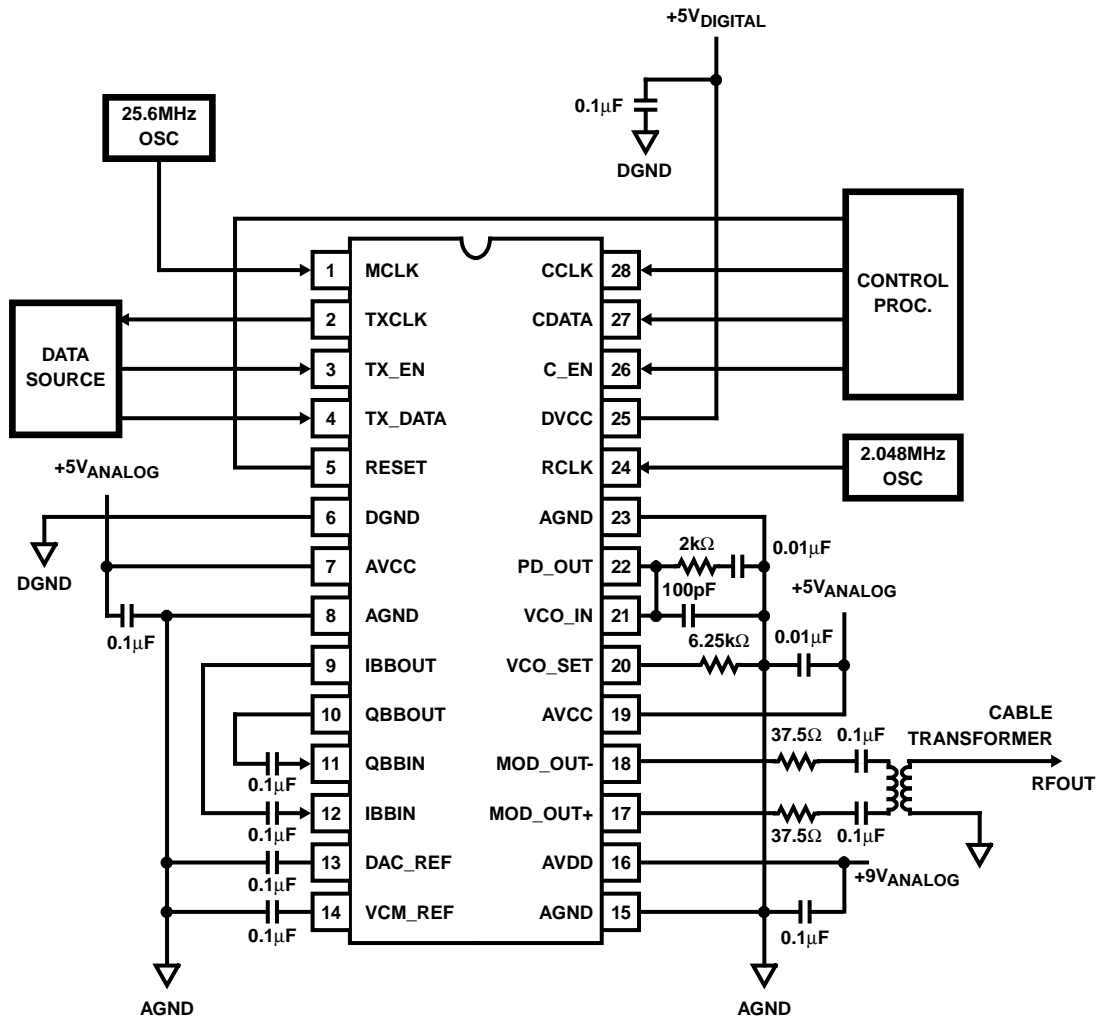

FIGURE 4. APPLICATIONS EXAMPLE OF THE HSP50307
Figure 4 shows an applications example of the HSP50307. The MCLK source operates at 25.6MHz, and the RCLK operates at 2.048MHz. 0.1µF capacitors are connected from the IBBOUT to IBBIN and the QBBOUT to QBBIN, providing AC coupling to the analog upconverter section of the HSP50307.
applications example shown in Figure 4. It gives an overview of what is being accomplished but does not specify an exact carrier frequency or other programmable functions. These specifications are met given a valid control word combination and the applications circuit shown in Figure 4. Table 4 summarizes the performance of the applications example shown in Figure 4. Again, these specifications are met given a valid programmed mode.
**NOTE: The HSP50307 is sensitive to layout. Users must make sure the input signals do not couple back into the output signals. The performance of the HSP50307 is also sensitive to the decoupling capacitors between 1) QBBOUT and QBBIN and 2) IBBOUT and IBBIN. The values shown in Figure 4 are recommended.**